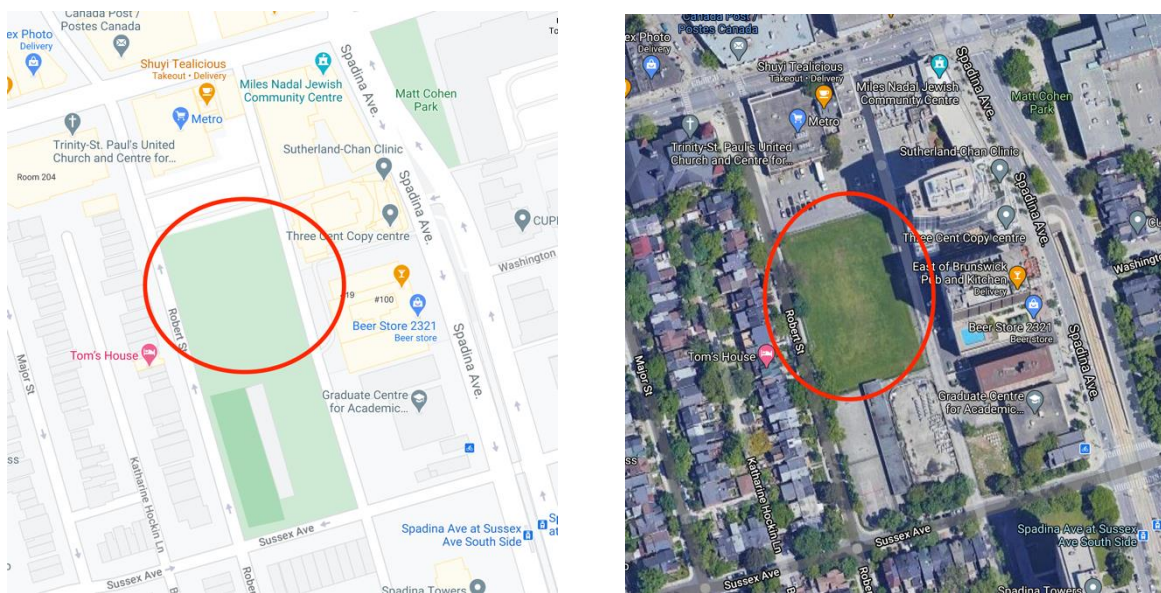
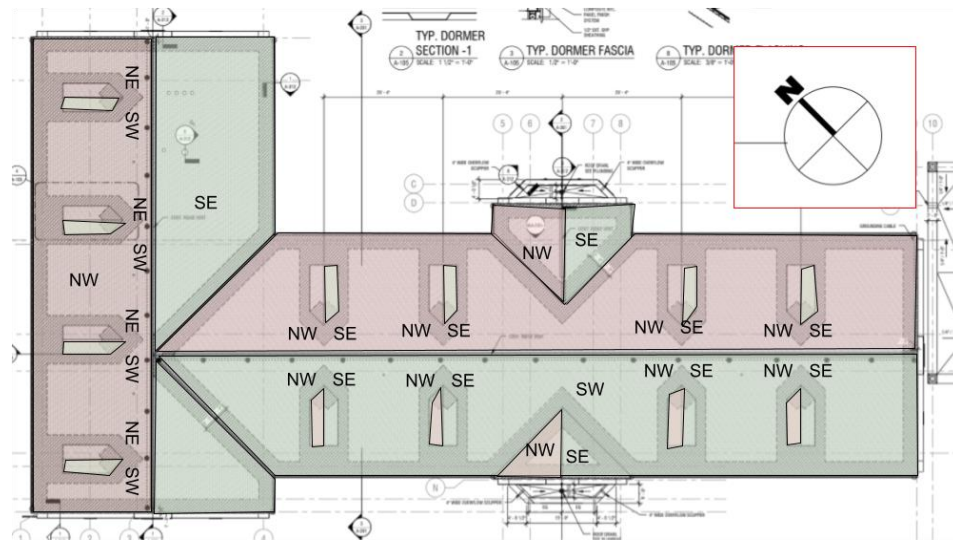

Figure 2.3 : Plan view of proposed site location in map and satellite view [17]
Figure 2.4: Architectural roof plan illustrating viable roof space for solar panel installation [19]
The new University of Toronto Residence hall will be located in an empty plot of land on Bloor St. W and Sussex Mews (see Figure 2.3) and will include a solar photovoltaic (PV) system. Sized at approximately 49,713 square feet, this plot will be able to comfortably house the proposed 42,160 square foot residence. Due to the surrounding city life and the expectation of human activity surrounding the building, it was decided that the ground floor is not suitable for PV installation. A grid-tied system is recommended for the residence building, as it was determined that the power generated by the proposed PV system will not be sufficient on its own to meet the building's expected annual energy needs [16]. Additionally, the building code does not allow for ground-located systems, and the proposed system is net-metered.
As shown in Figure 2.3, the residence will be surrounded by tall, commercial complexes, predominantly on its northeast side, which will cast shadows on the residence's smaller northeast roof. The residence's roofs, dormers, and gables are oriented in four different directions: northwest, northeast, southwest, and southeast; however, it is recommended that the PV panels are exclusively mounted on the southeast and southwest roofs to maximize solar output and minimize shading from the northeast buildings [18]. The solar panels on the building would thus be strategically placed such that shading from nearby buildings and the building's adjacent roofs itself are minimized, as shown in Figure 2.4.